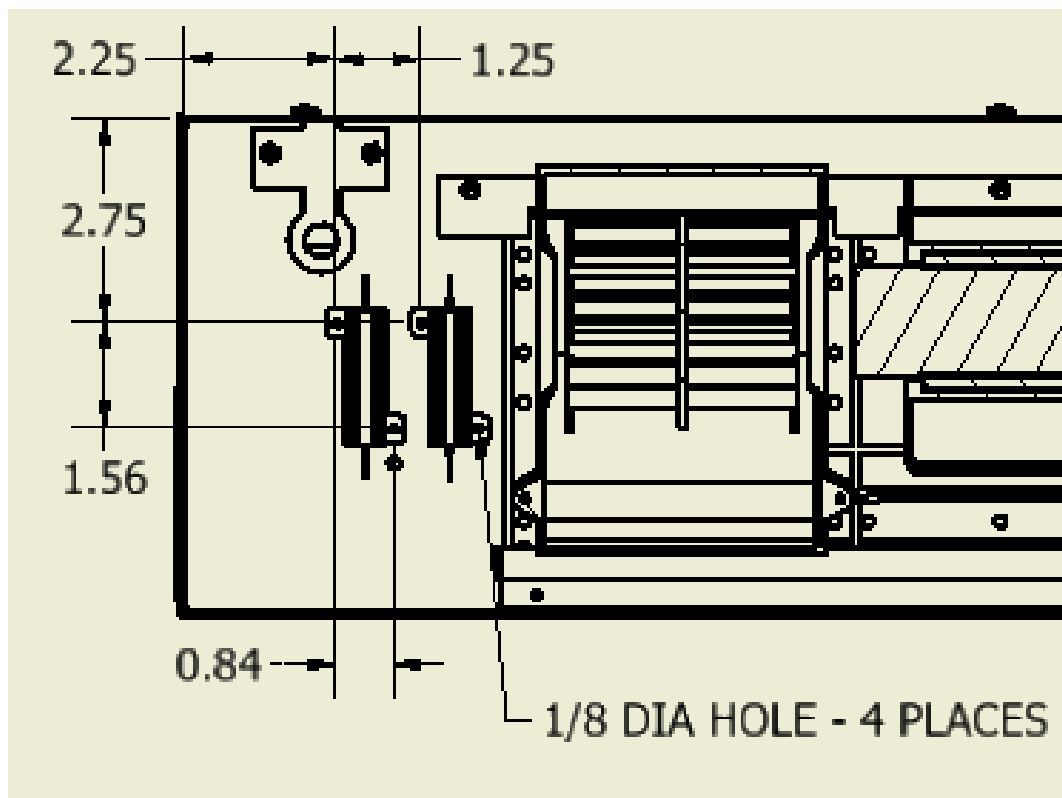

Figure 2: Resistors mounting holes dimensions
7. Add new resistor assembly (MCC PN T25-3667) provided in the kit by drilling four 1/8" DIA holes. (See Figure 2 for mounting holes dimensions).